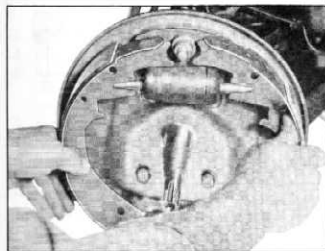

Fig. 23—Spread Shoes to Remove
6. Spread shoes to clear wheel cylinder connecting links and remove shoes from backing plate (fig. 23).